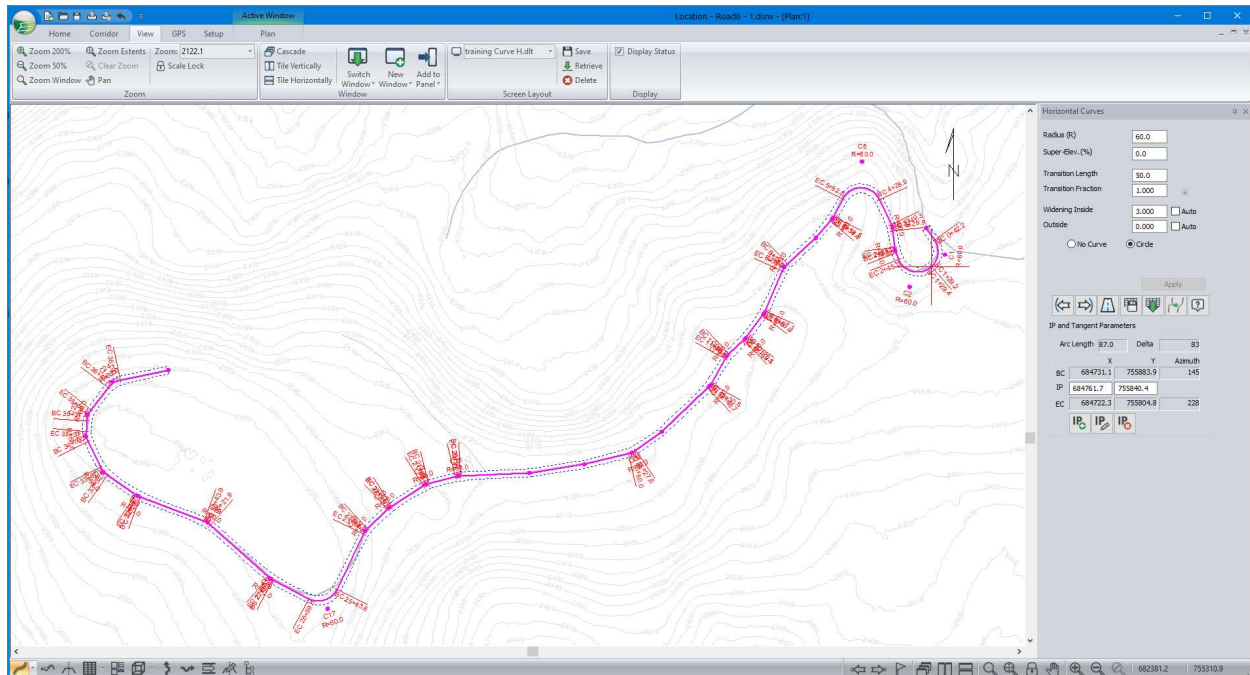

Figure 6-13: Additional IP Placement for Midpoint Tie-In Feature
- Continue editing the alignment and adding curves until you are comfortable with the process Figure 6-13.